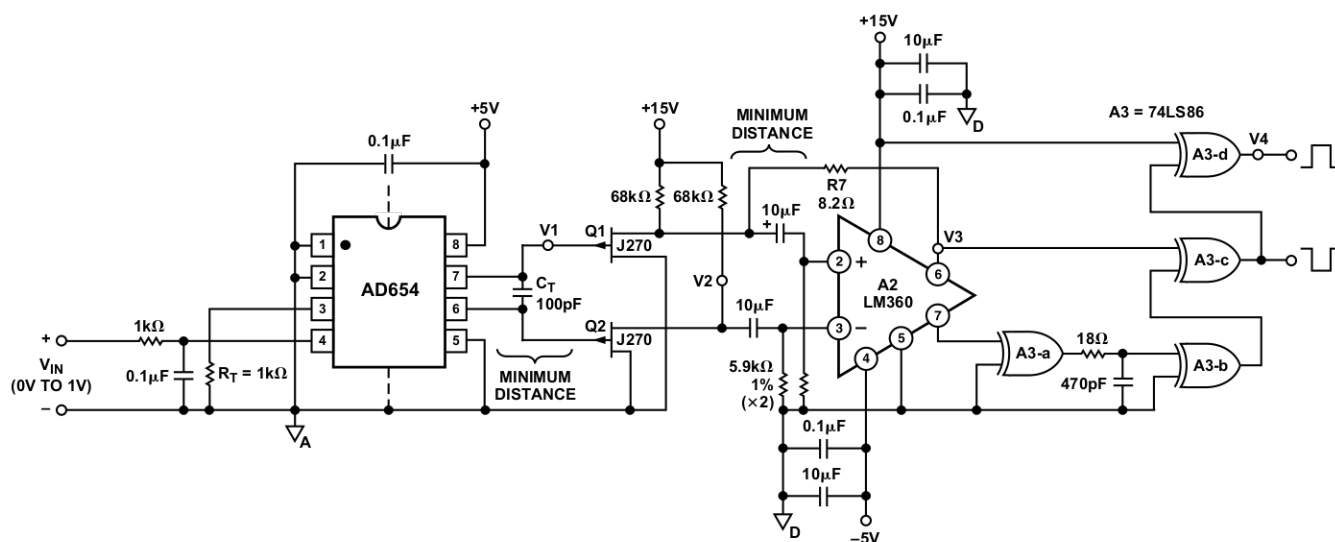

Figure 13. 2 MHz, Frequency Doubling V/F
Figure 13 illustrates this with a circuit offering 2 MHz full scale. In this circuit the AD654 is operated at a full scale (FS) of 1 mA, with a C_T of 100 pF. This achieves a basic device FS frequency of 1 MHz across C_T . The P channel JFETs, Q1 and Q2, buffer the differential timing capacitor waveforms to a low impedance level where the push-pull signal is then ac coupled to the high speed comparator A2. Hysteresis is used, via R7, for nonambiguous switching and to eliminate the oscillations which would otherwise occur at low frequencies.
The net result of this is a very high speed circuit which does not compromise the AD654 dynamic range. This is a result of the FET buffers typically having only a few pA of bias current. The high end dynamic range is limited, however, by parasitic package and layout capacitances in shunt with C_T , as well as those from each node to ac ground. Minimizing the lead length between A2-6/A2-7 and Q1/Q2 in PC layout will help. A ground plane will also help stability. Figure 14 shows the waveforms V1–V4 found at the respective points shown in Figure 13.